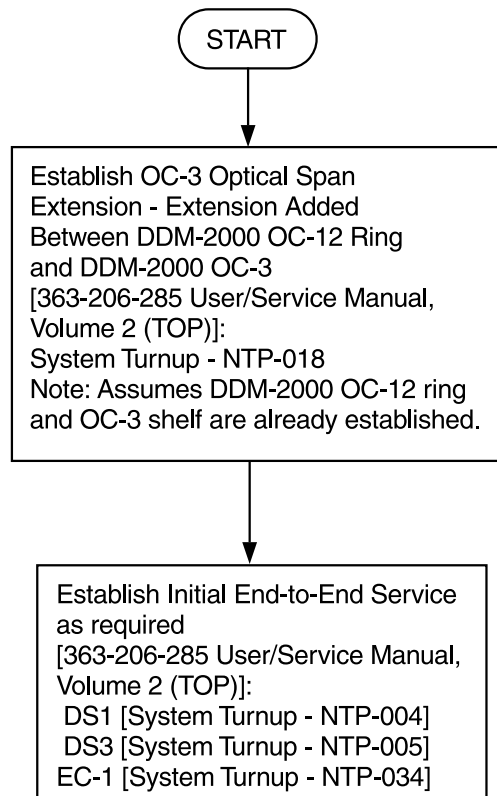

Figure 16. DDM-2000/FT-2000 Large Network Configurations — OC-3 Optical Span Extension Between DDM-2000 OC-12 Ring and DDM-2000 OC-3
- Figure 16 OC-3 Optical Extension Between DDM-2000 OC-3 Ring and OC-12 ring